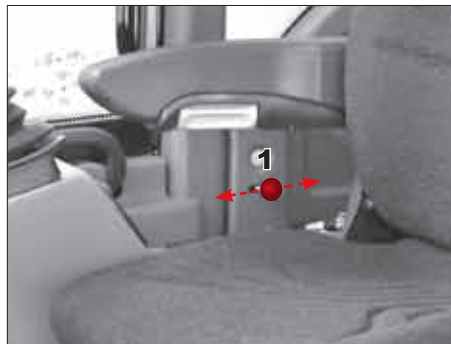

Fig. 24
- Activate lever Item 1 to release the door arrest (Fig. 24).